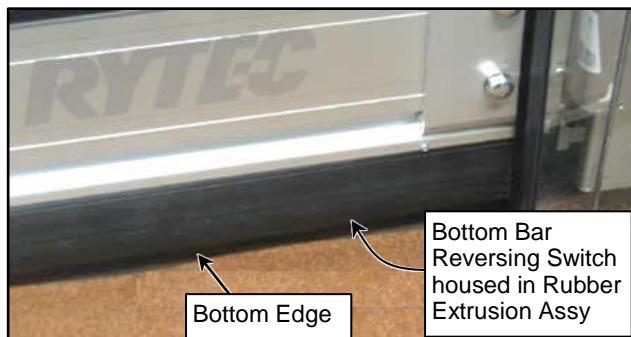

Figure 7
- If the reversing edge is activated 3 consecutive times the door will open & remain open displaying **F:361 "Edge Tripped"** (See Figure 7)